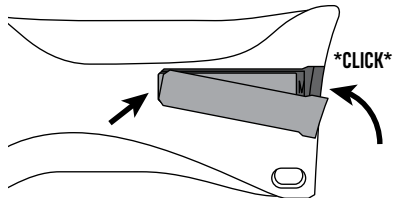

Fig 3
**3. REPLACE THE BATTERY COVER** - Ensure the Battery Door is closed, by pushing the latch forward until it clicks. (Fig 3)